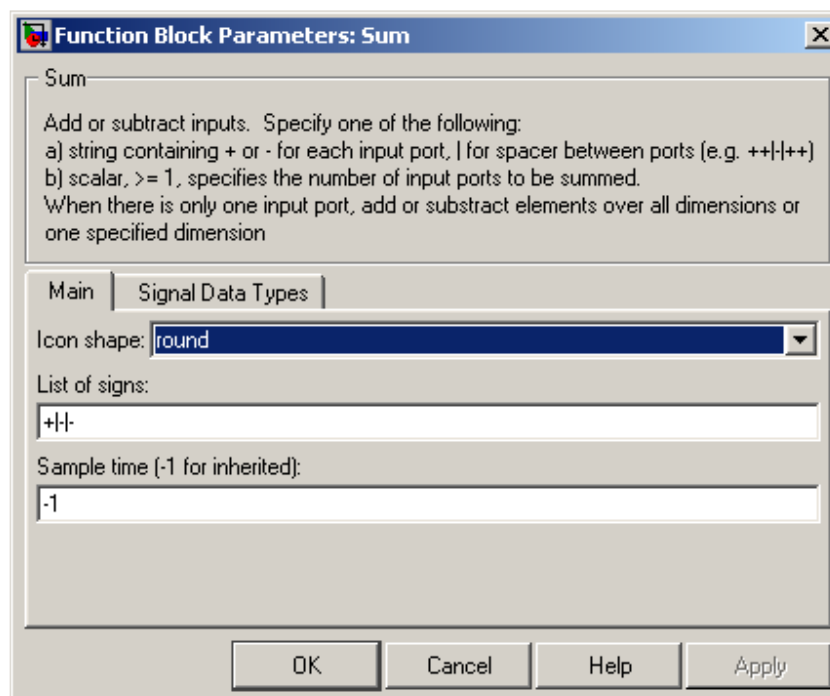

Figure 7: Parameters for the 'Sum' block
10. The last thing we need to do is to add all the signals together using 'Sum' block. Drag one into your model and modify the parameters as shown in **Figure 7**